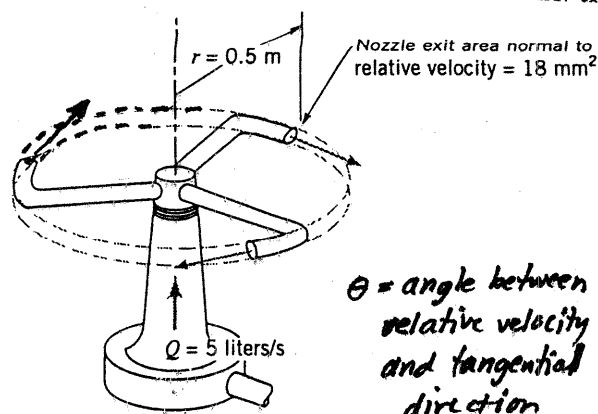

FIGURE P5.69
5.69 Five liters/s of water enters the rotor shown in Video V5.5 and Fig. P5.69 along the axis of rotation. The cross-sectional area of each of the three nozzle exits normal to the relative velocity is 18 mm^2 . How large is the resisting torque required to hold the rotor stationary? How fast will the rotor spin steadily if the resisting torque is reduced to zero and (a) $\theta = 0^\circ$, (b) $\theta = 30^\circ$, (c) $\theta = 60^\circ$?